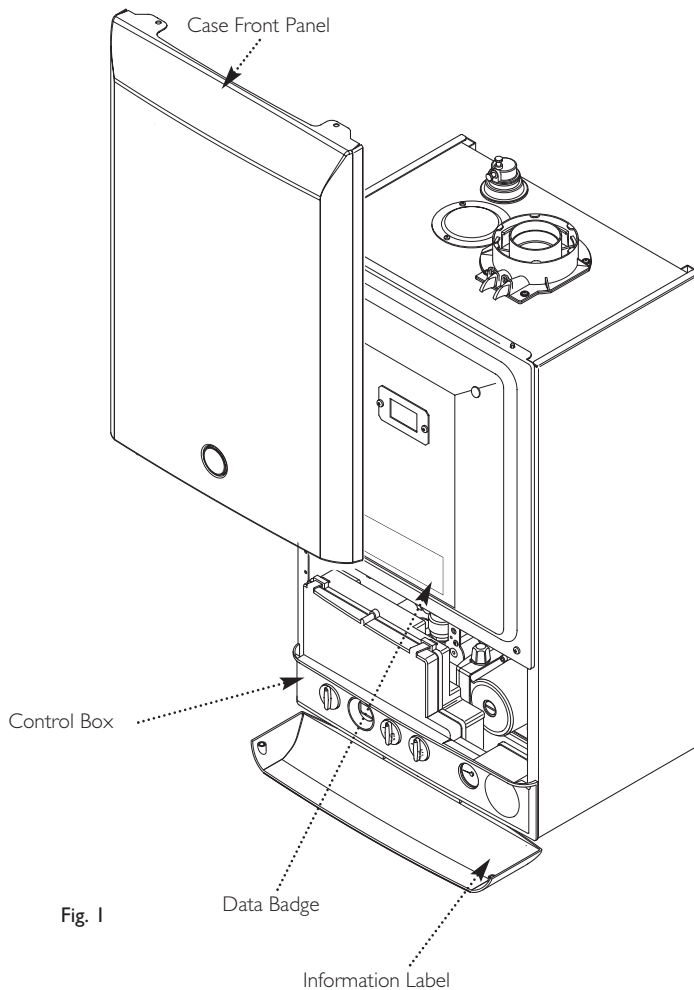

Fig. 1
6. The boiler data badge gives details of the model, serial number and Gas Council number and is situated on the inner door panel. It is visible when the case front panel is removed (Fig. 1).